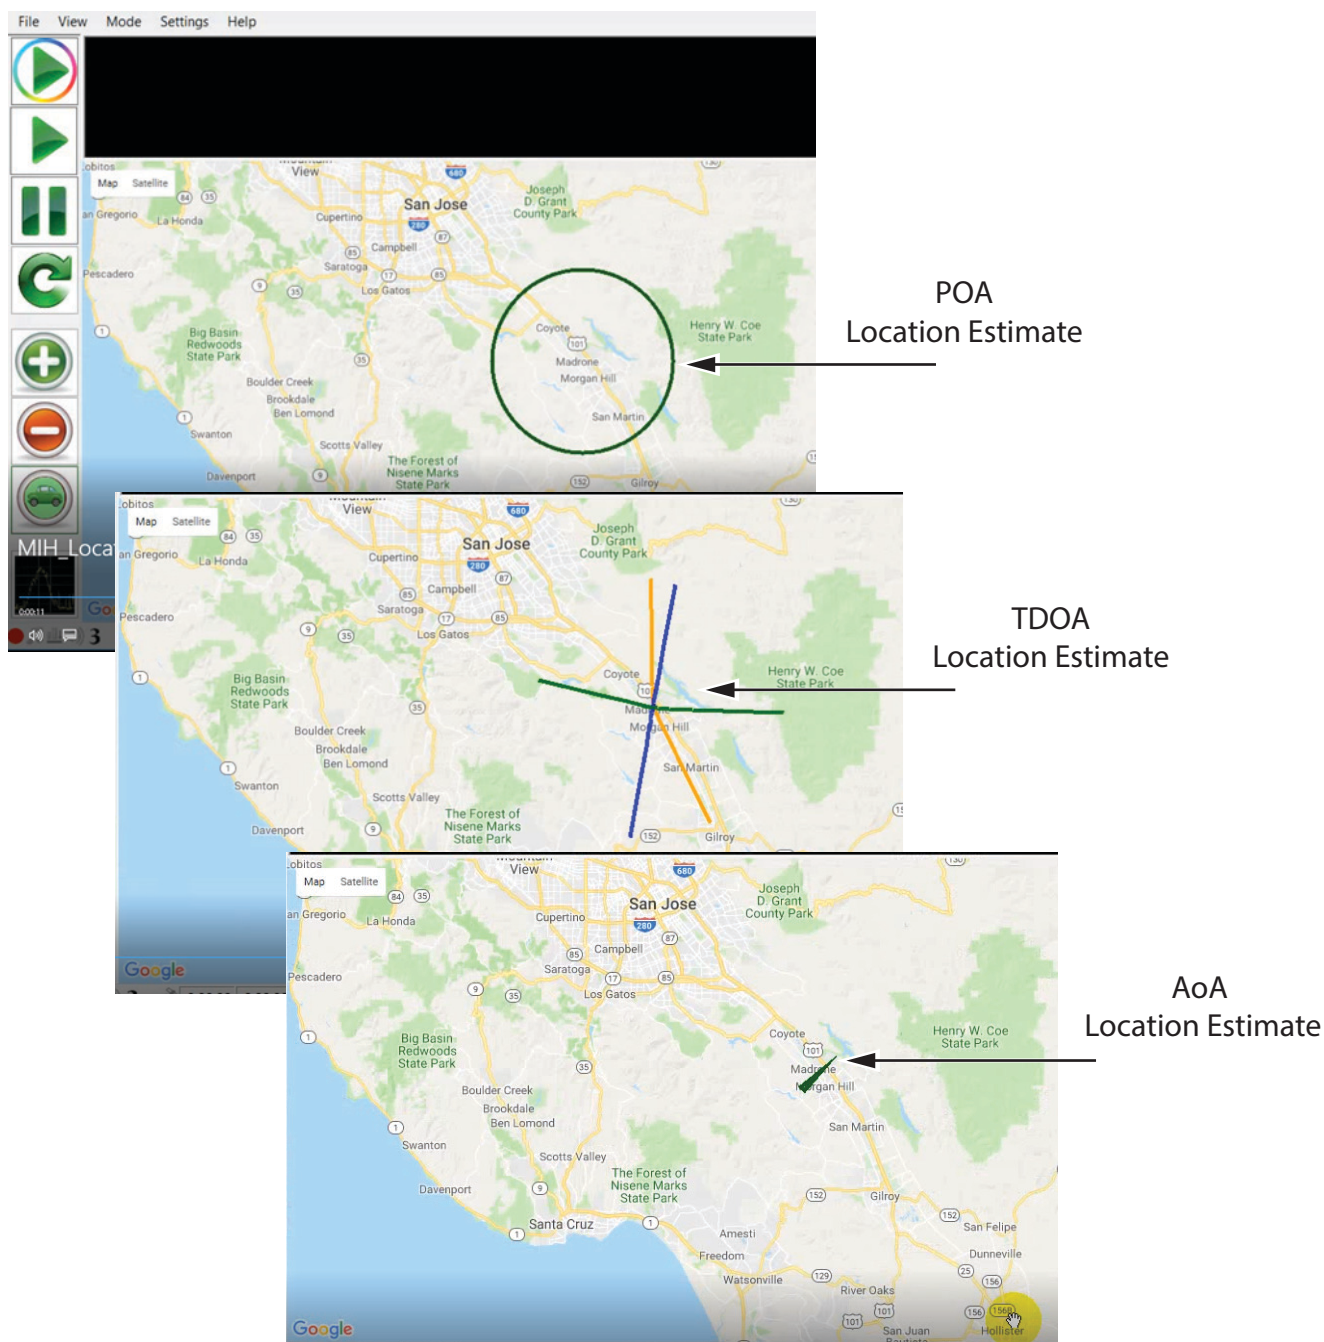

Figure 4-19. View Imported .loc files
- Import the TDOA, POA, and AoA file to view on the MIH screen as shown in Figure 4-19.